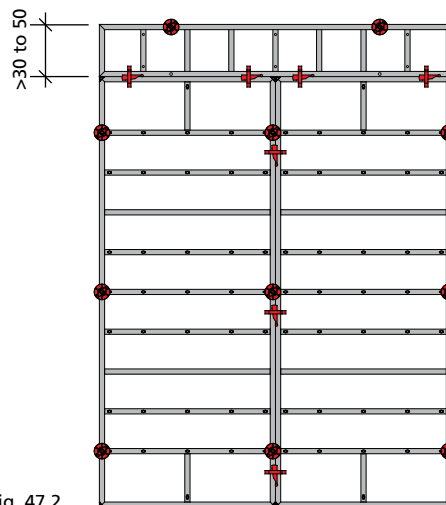

Fig. 47.2
■ Only the top ties need to be placed if the height is extended with a panel that has a width over 30 cm and up to 50 cm (Fig. 47.2).